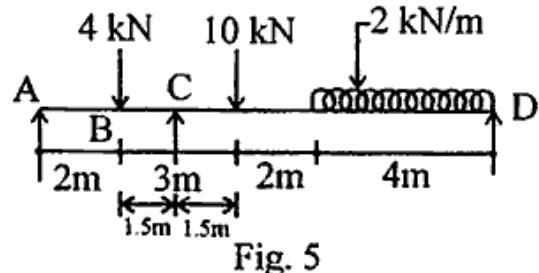

Fig. 5
5. A continuous beam ABCD consists of three spans and is loaded as shown in Fig. 5 Find 'A' and 'D' are hinged. Determine the B.M. using Kani's method. Also plot the B.M.D. and deflected shape of beam.